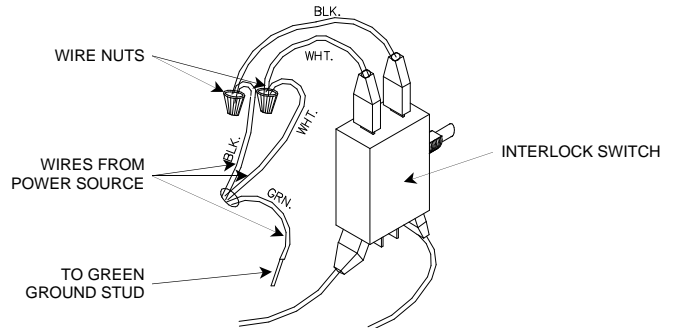

FIGURE 1
5. Cut power cord six (6) inches from interlock switch, strip insulation back 1/2" and, using wire nuts, connect black and white wire from conduit to interlock (Figure 1).